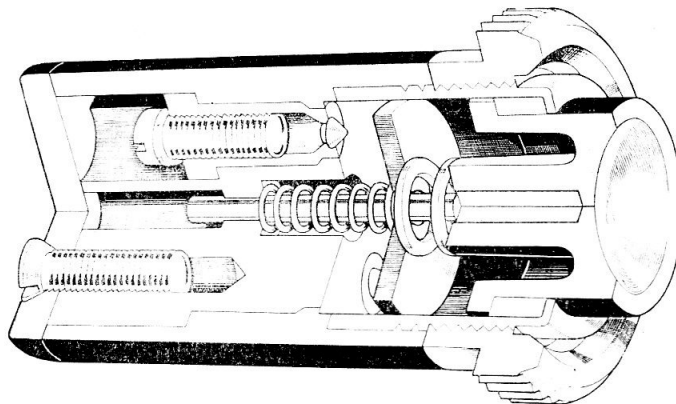

Fig. 1. Push-switch, Type 11SW
2. A sectional view of the switch is given in fig. 1. The switch contact is a circular plate which is moved on to two small metal cones